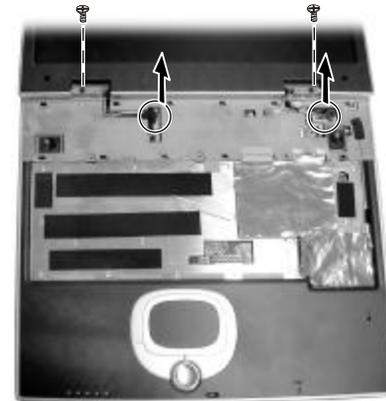

Figure 2-19 Disconnect the two LCD wires
7. Remove two screws of the hinges. And disconnect the two LCD wires from the system board. (Figure 2-19)